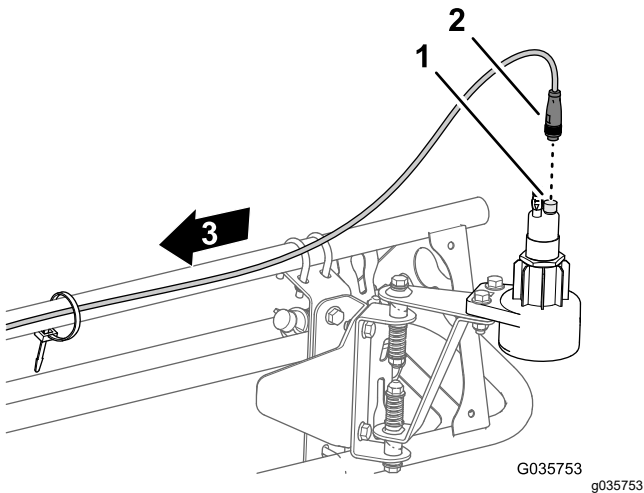

Figure 23
1. Connect the round 4-socket connector of the sensor-wire harness for the 4-pin connector of the sensor (Figure 23).